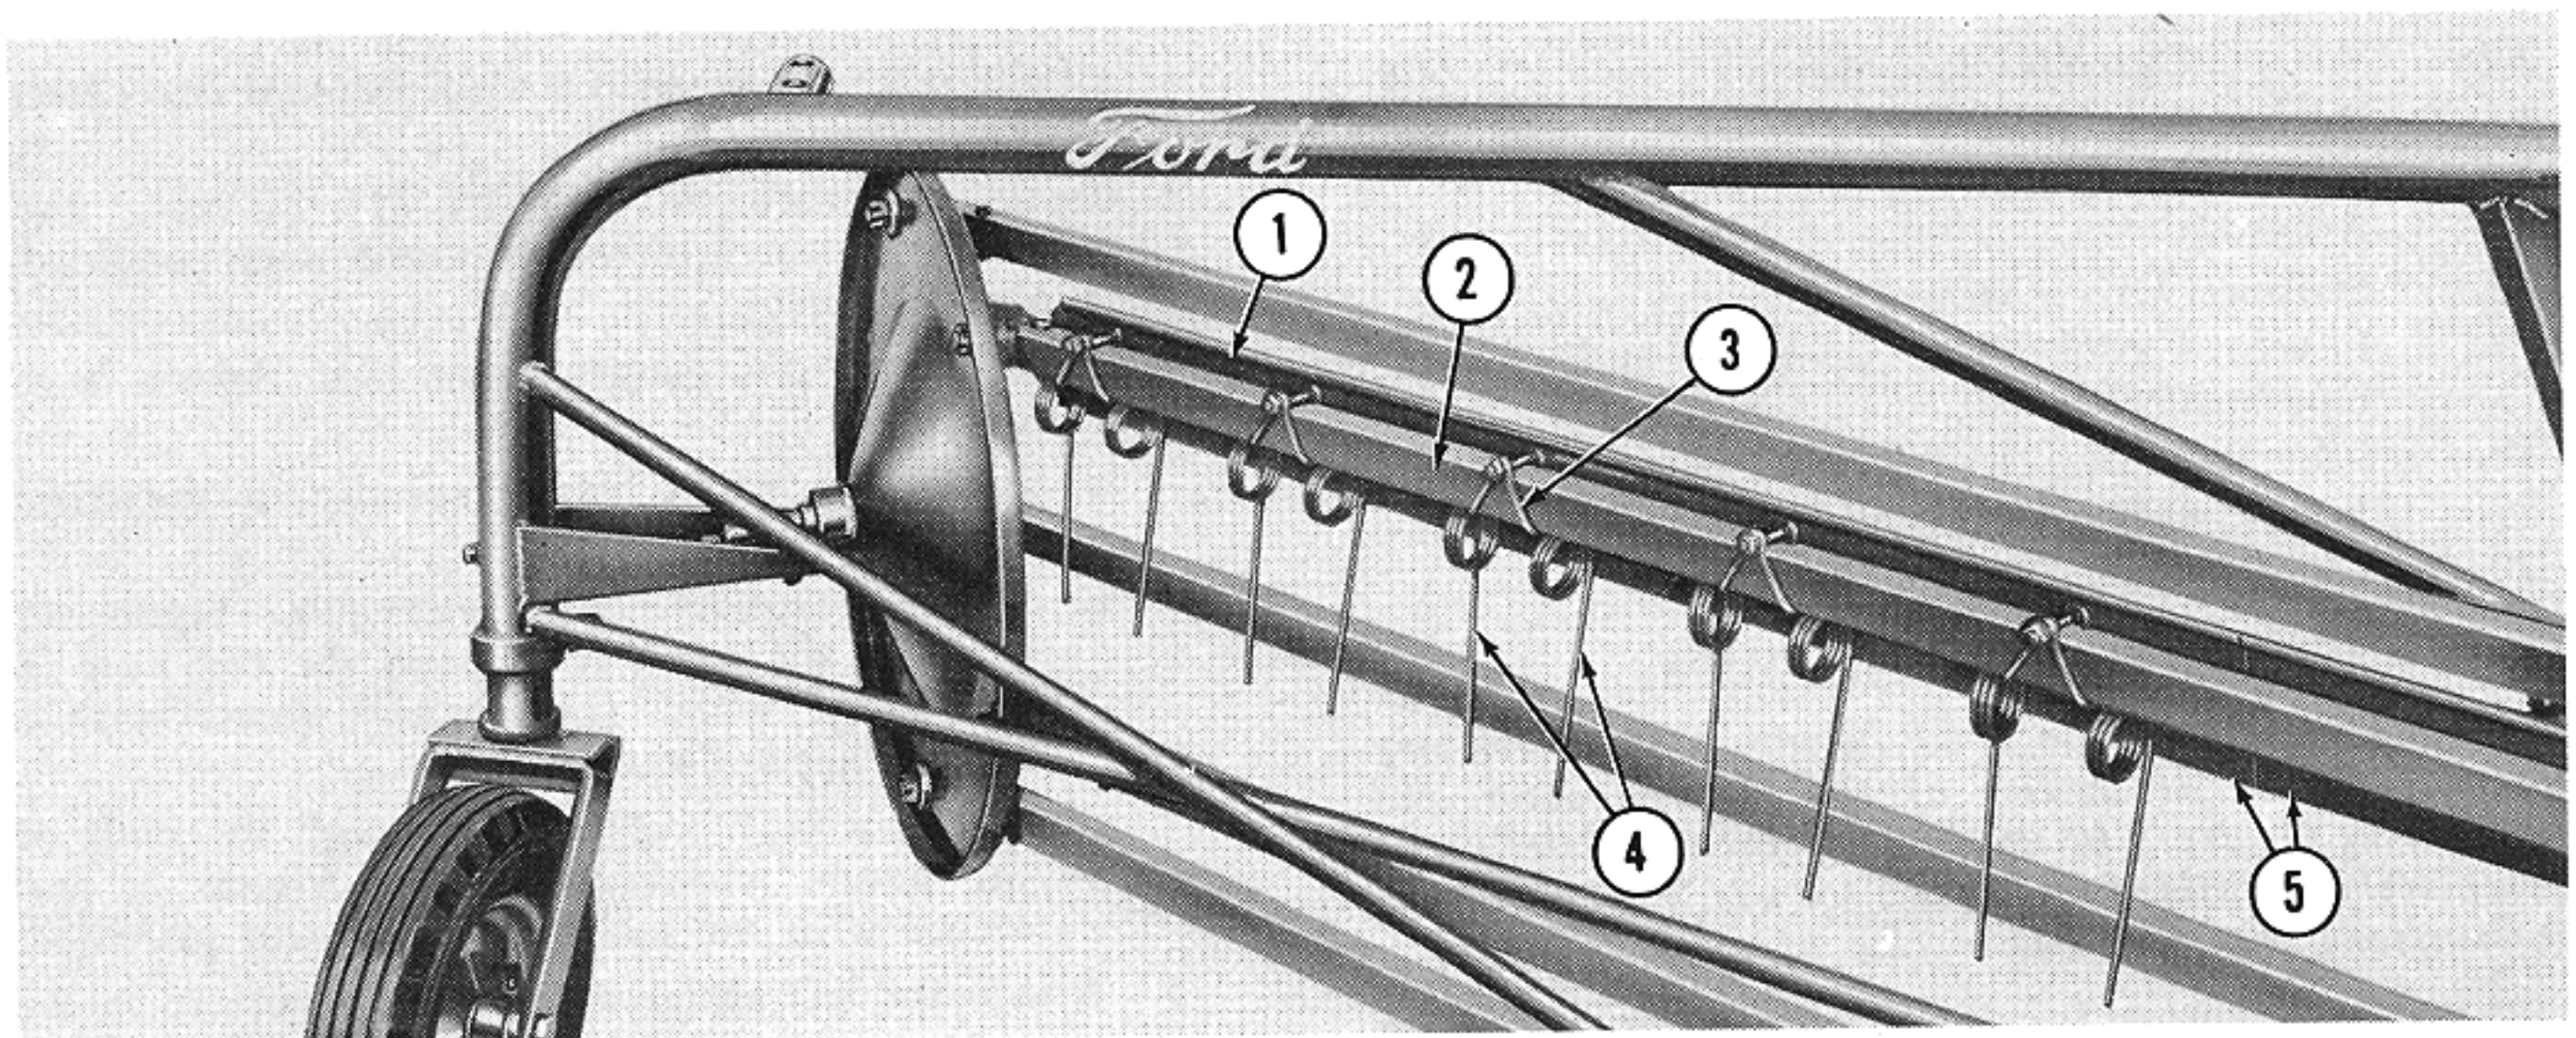

Figure 4
- a. Position one shield (1), Figure 4, flush with the end of each tooth bar (2) and install the teeth (4) and tooth clamps (3), as shown. The trimmed corners of the shields should be at the ends of the tooth bars. Secure with the $\frac{5}{16}$ " x $2\frac{1}{2}$ " carriage bolts, flatwashers, lockwashers and nuts.
- b. Position a shield on the other end of each tooth bar so the shields butt against each other as shown at (5), Figure 4, and install the teeth and tooth clamps in the same manner. Tighten all clamp bolts securely.